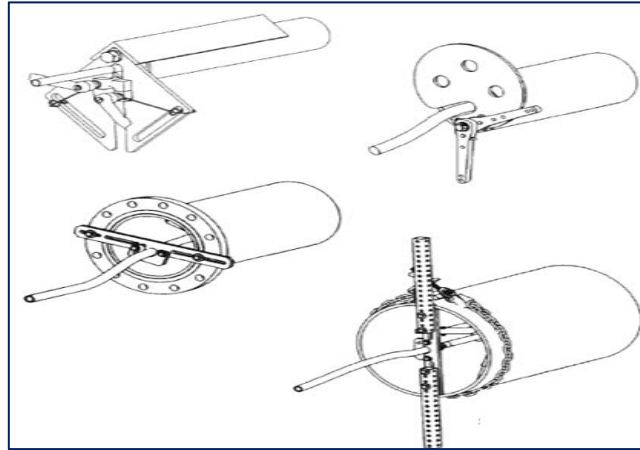

Figure 3
- n. Back out preventers (Stoppers) shall be used on all High Pressure water cleaning methods for cleaning pipes, heat exchangers tubes etc. using flexible hoses. The Back out preventers (Stoppers) increase operator safety by keeping the tool/hose from backing out of the pipe. Several options are available including fixtures for small diameter pipes, pipes with various flange bolt circle diameters, and adapters for pipes with no-flange entry. See below Figure 3